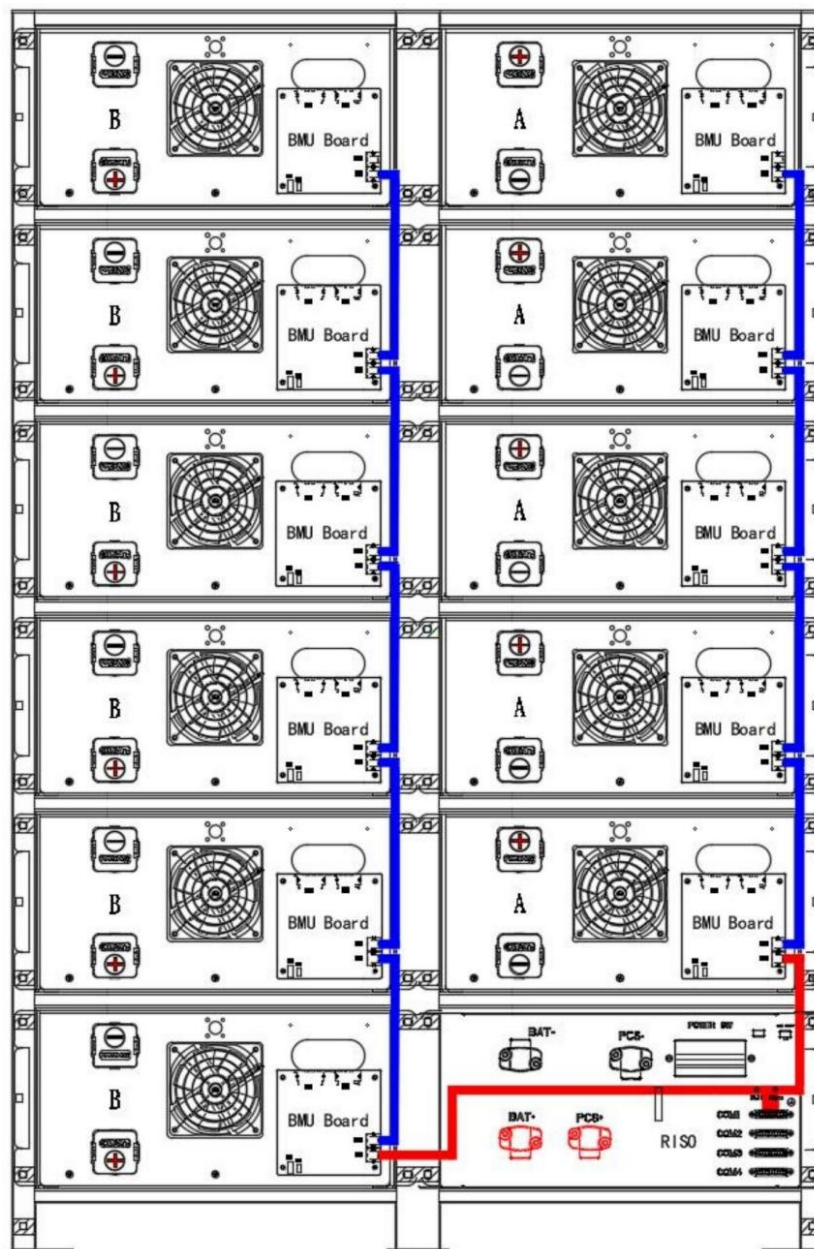

Figure 14 Battery pack communication line installation diagram
2). Refer to Figure 14 to distinguish two kinds of communication lines.
3). For example, the BR157R communication line installation diagram is shown in Figure 14, other specifications can refer to BR157R for connection.